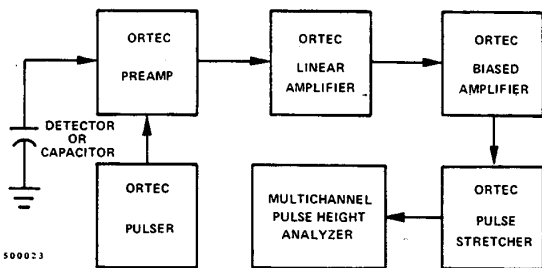

Fig. 4.3. Measuring Resolution with a Pulse Height Analyzer.
**Amplifier Noise and Resolution Measurements Using a Pulse Height Analyzer** Probably the most convenient method of making resolution measurements is with a pulse height analyzer as shown by the setup illustrated in Fig. 4.3. The amplifier noise resolution spread can be measured correctly with a pulse height analyzer and the 480 as follows: